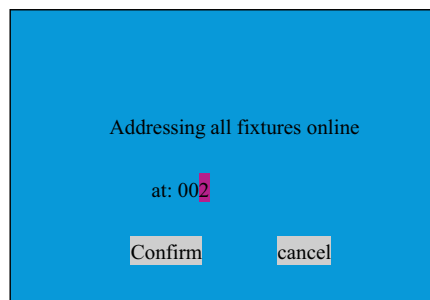

Figure C. 6
1. Pls choose one address before setting same address to all fixtures, then choose Confirm to finish the setting or Cancel to stop setting(Figure C.6). The lights will work on 100% green color after addressing is OK